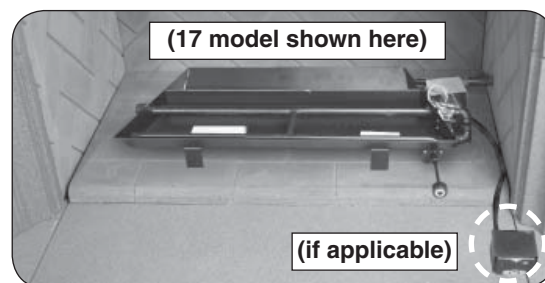

Fig. 14-3 Orientation (place receiver if applicable)
3. Place the burner system in the fireplace. Center the burner from left to right in the fireplace. (Reference Fig. 14-3 for orientation.)
8. **Place the plastic cover over the receiver, then place at the front right corner of the fireplace.** Place as far from the burner system as possible. See Fig. 14-3.